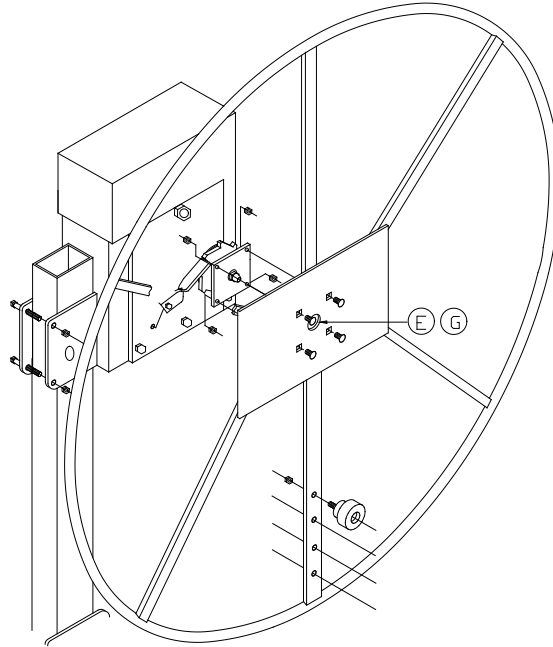

Figure 2-1
3. Remove the handwheel by removing the 1/2" locknut (3/4 socket) and washer that is fastened to the winch input shaft, located in the center of the handwheel. Refer to Figure 2-1.